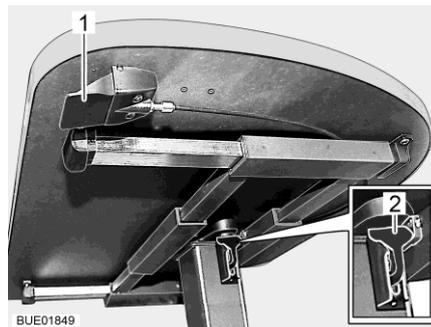

Fig. 55 Lift-off table with release button
- Pull or press down the catch lever (Fig. 55,2).
- Press the catch lever (Fig. 55,2) upwards.
- Press the release button (Fig. 55,1) and hold it down. The table top moves automatically upwards to the limit stop.
- Release the release button (Fig. 55,1). The table top remains in the desired position.
- Press the release button (Fig. 55,1) and hold it down.
- Release the release button (Fig. 55,1). The table top remains in the lowest position.